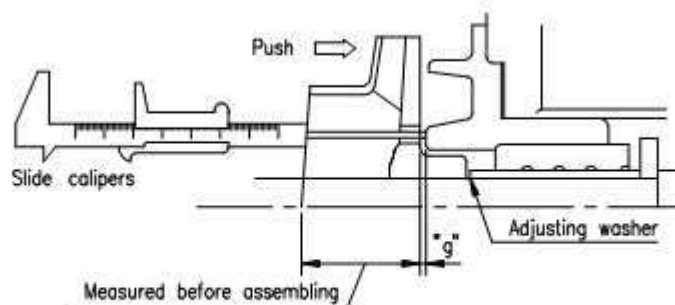

Fig. 7-22. Axial Gap of Impeller
- (c) Adjustment of axial gap of impeller (Pump in Fig. 7-20. does not need the adjustment) Adjust the gap "g" shown in Fig. 7-22. with adjusting washer to 0.5 ~ 0.9mm. Measurement of gap "g" shall be done as Shown below.